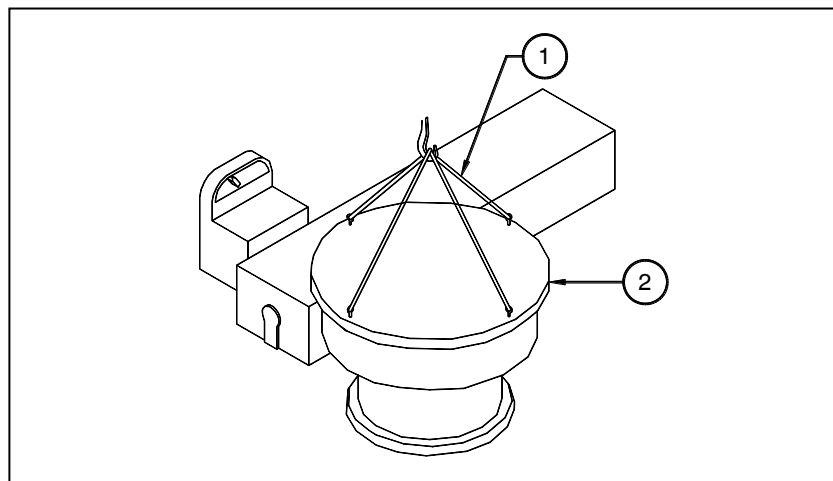

Figure 4.7a
- d. Lift the worm gear assembly from the drive, referring to the lifting illustration, Figure 4.7a, as follows:
- (1) Remove and set aside four symmetrically located capscrews around the drive cover.
- (2) Place four (4) eye bolts symmetrically through the upper cover screw holes into the housing and lift with cables. If shims are in place between the worm housing and lower drive, match mark them so they can be returned to their original positions during reassembly.